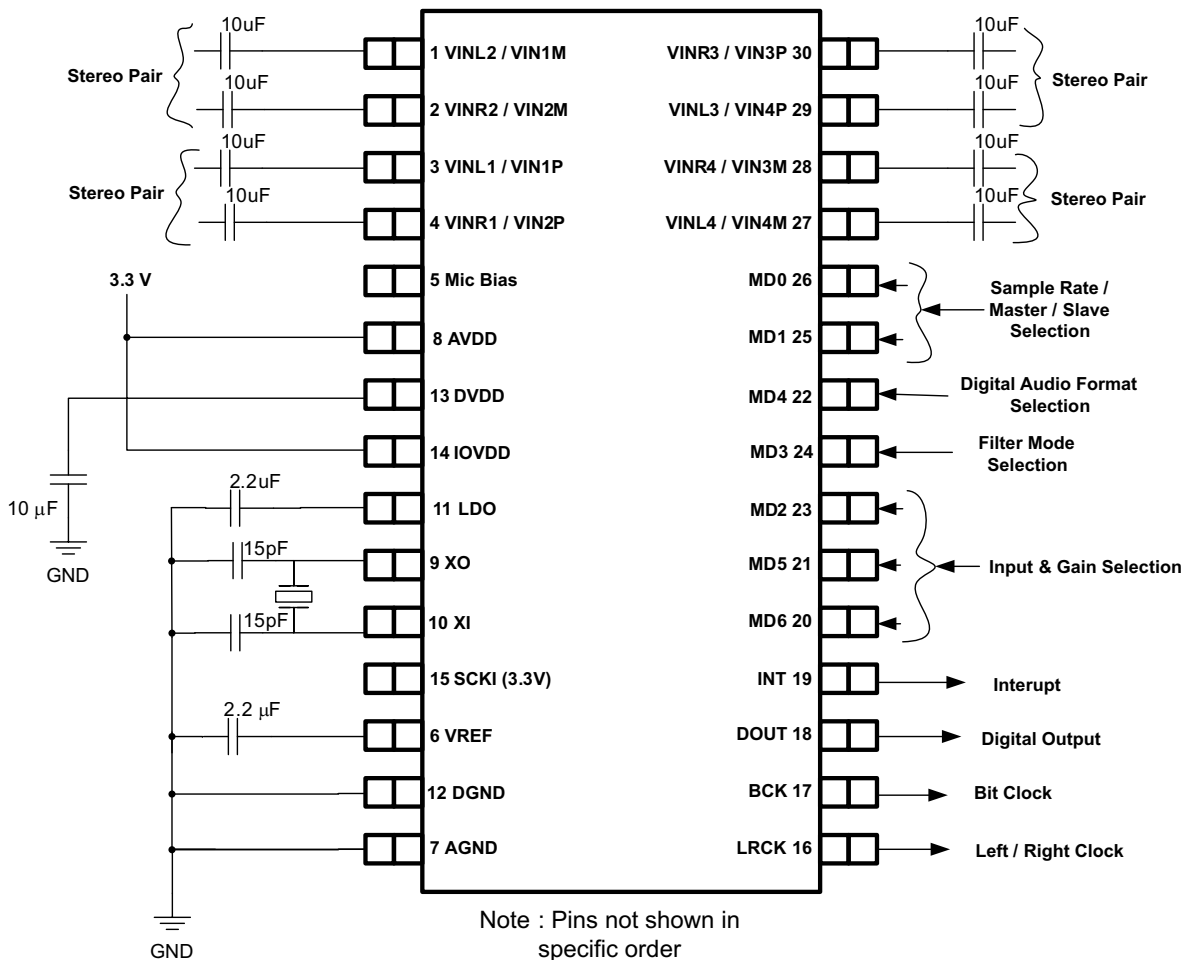

Figure 56. Simplified Schematic, PCM1861 Hardware-Controlled Subsystem
- MD0, MD1 grounded (See Figure 56, Pin Assignments, PCM1861)